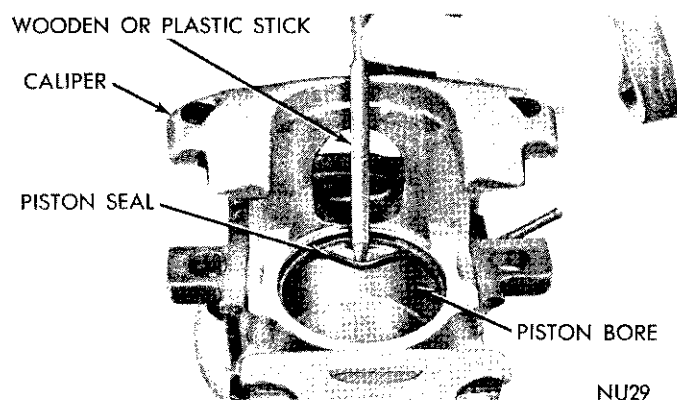

Fig. 12—Removing Piston Seal
(4) Using a small, pointed, wooden or plastic stick, work piston seal out of its groove in piston bore (Fig. 12). Discard old seal. **Do not use a screwdriver or other metal tool for this operation, because of possibility of scratching piston bore or burring edges of seal groove.**